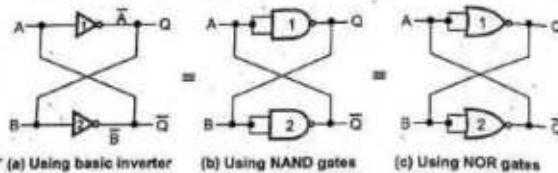

Fig. 5.2.1 Basic bistable element (1-bit memory cell)
- The Fig. 5.2.1 shows the basic bistable element used in latches and flip-flops.